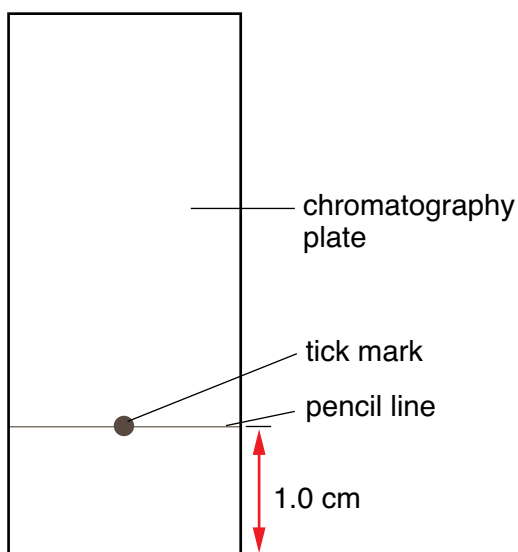

Figure 2
- a. Using a ruler, measure 1 centimeter (cm) from the bottom of each plate and draw a straight line across the plate in pencil, as shown in Figure 2. Draw the lines on the white surface of the plate and be careful not to scratch the surface.